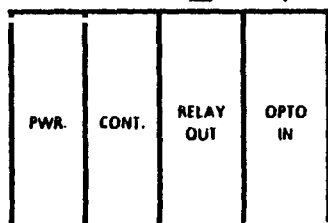

Figure 2-1. Basic GENISYS System
2.1.1 Overall System (See Figure 2-1)
GENISYS may be interfaced directly with a controlling computer, and with digital carrier system modems. A Master/Slave protocol is used for communications between a computer and GENISYS unit(s) or between two or more units. Configurations may include (1) stand-alone units with no serial communications links and (2) Master/Slave systems with serial communications links. Master/Slave systems may, in turn, incorporate one or more Master GENISYS units. These configurations are shown in Figure 2-1.